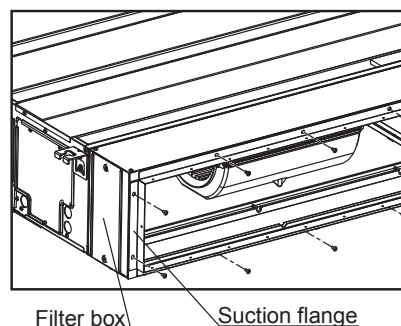

Fig.2-3
3. Install the supplied suction flange on the filter box with the supplied screws. (Fig. 2-3)